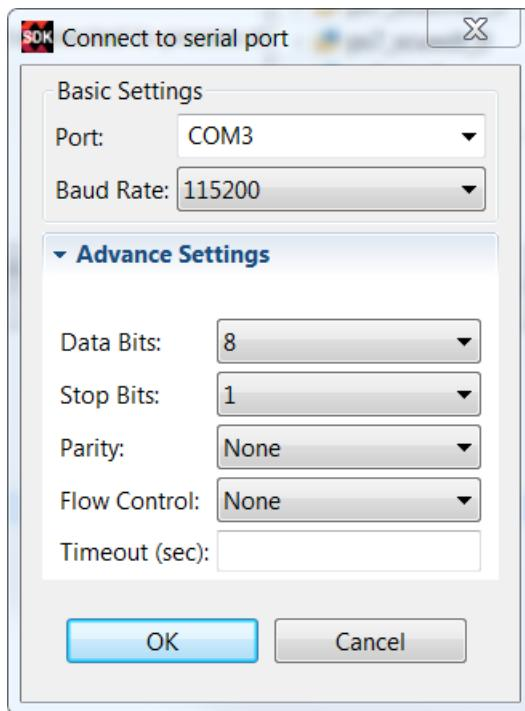

Figure 38: Terminal Settings for ZC702 Board
10. Use the settings in Figure 38 for the ZC702 board. The COM Port might be different on your machine.